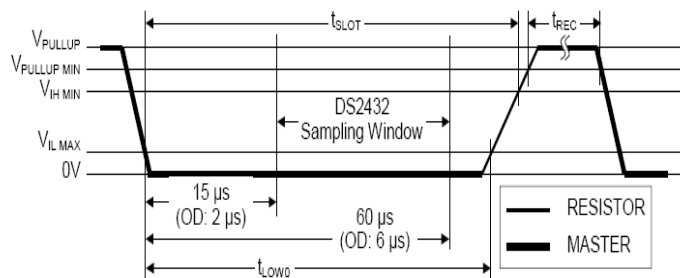

Fig4-98 - Write-zero Time Slot
- (1) To initialize Write Data, Master will convert the Data Line from the high logic to the low.
- (2) There are two types of Write time slot: Write 1 time slot and Write 0 time slot.
- (3) During a write cycle, all Write time slots must have duration of at least 60µs and a recovery period of 1µs.
- (4) When the I/O line goes down, Slave devices create samples from 15-60 µs.
A. Write 0: If the sampling is low, 0 is generated as in Fig4-98: